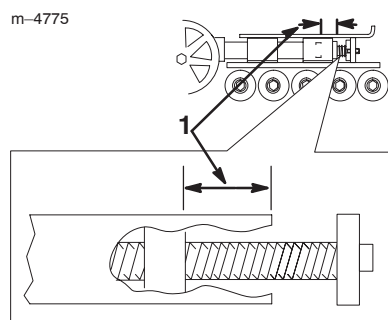

Figure 33
Check and adjust the track tension every 100 operating hours. There should be 2-3/4 inches (7 cm) between the tension nut and the back of the tension tube (Fig. 33). If not, adjust the track tension using the following procedure:
- Using a 1/2 inch drive socket (Fig. 36), turn the tensioning screw counter-clockwise until the distance between the tension nut and the back of the tension tube (Fig. 33) is 2-3/4 inches (7 cm).
11. Turn the tensioning screw counter-clockwise until the distance between the tension nut and the back of the fork tube (Fig. 33) is 2-3/4 inches (7 cm).
17. Turn the tensioning screw counter-clockwise until the distance between the tension nut and the back of the tension tube (Fig. 33) is 2-3/4 inches (7 cm).